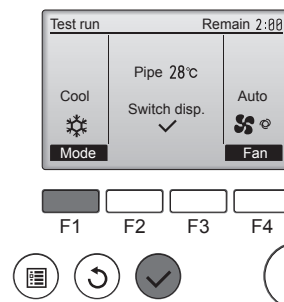

Fig. 8-3
- ① Press the [F1] button to change the operation mode. (Fig. 8-3)